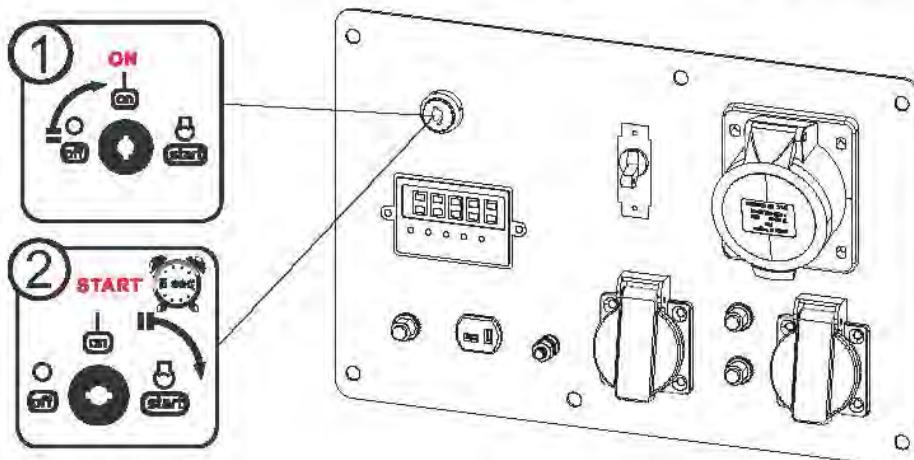

Fig 9
## How to Start Engine (See Fig 9)
- Turn the START/ON/OFF switch (Key) to the "START" position to attempt to start the Engine. Engine cranks and fails to start within 15 seconds wait about 1 minute before attempting to start again.(see fig 9)
In the cold weather, the engine is difficult to start, press the heater button 10-20 seconds after the release, and then repeat the action FIG 9. You can easily start the engine.